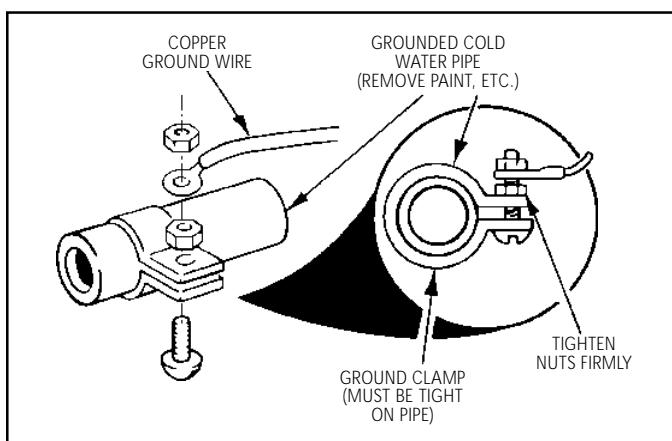

Figure 6
B. If used in mobile home or if local codes DO NOT permit frame grounding to the neutral, separate the white and bare ground wires that extend out of the end of the supply cable of the appliance. Connect the white wire from the supply cable to the neutral white wire in the junction box. Connect the black wire from the supply cable to the black wire in the junction box. Connect the red wire from the supply cable to the red wire in the junction box. The bare wire must now be used to ground the appliance in accordance with local electrical codes. Connect the bare copper ground wire to a grounded cold water pipe* or to the grounded lead in the service panel. Do not ground to a gas supply pipe. Do not connect to electrical power supply until appliance is permanently grounded. Connect the ground wire before turning on the power. (see figure 6)